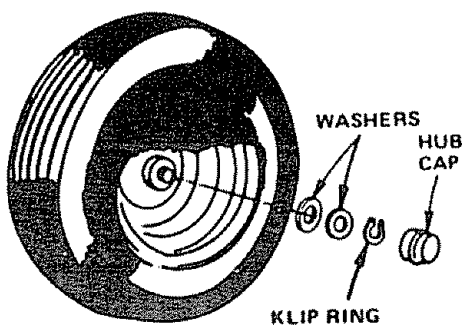

FIGURE 12
- Removing wheel for tire repair (Fig. 12).